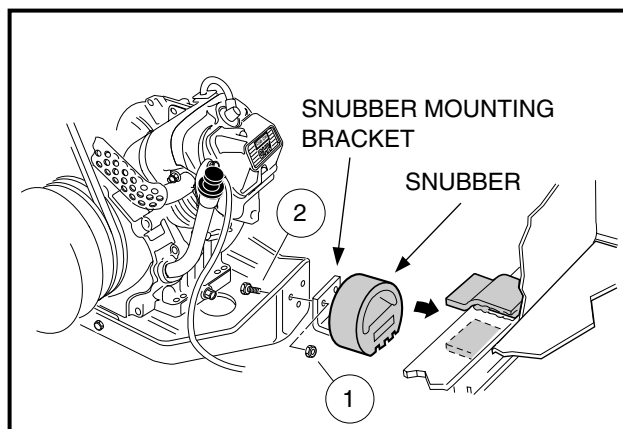

Figure 9-5 Snubber Brackets
2. Remove the two bolts (2) and two lock nuts (1) securing the snubber bracket to the engine mounting plate (**Figure 9-5, Page 9-6**).
2. Tighten snubber bracket mounting nuts (1) to 13 ft-lb (17.6 N-m) (**Figure 9-5, Page 9-6**).